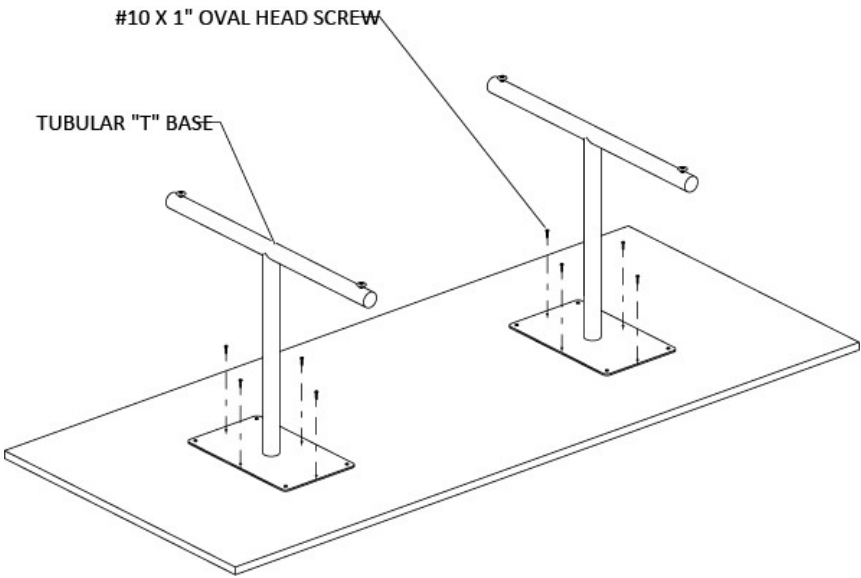

Figure 2
- Position the tubular “T” base using the pre-drilled positioning holes and attach it to table top using #10 X 1” Oval Head Screws, (Figure 2).